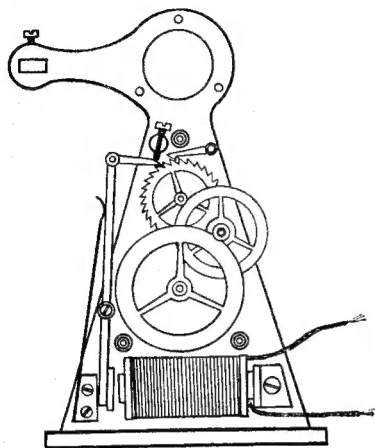

Fig. 24. Layout of impulse dial mechanism when assembled
(1) Attach electro-magnet anchorage lug with one 6-B.A. countersunk-headed screw, not too tightly. Slide coil into position and secure to base by 4-B.A. hex. nut. Do not lock too tightly.
(2) Move coil up, or down, as the case may be, until it is exactly parallel with the base line, after which, drill the  $\frac{1}{16}$ -in. steady pin hole, using that already formed on lug, as a template. Remove coil.
(3) File, slightly taper an oversize brass pin and tightly insert in hole extending through both lug and about two-thirds of face, cut off the pin as close as possible, and finally file down to outer surface. Finish to medium grain.
(4) Tightly insert the two rocker arm stop-pins as shown.
(5) Reassemble electro-magnet to base as above (sub-para. 1), but lock all screws tightly.
(6) Attach rocker arm return spring with two 10-B.A. shallow-headed screws. For sake of clearness this is not shown on Fig. 14. See Fig. 24.
(7) Fit staff to rocker arm, slightly "burring" over the spigot face to secure.
(8) Attach propulsion pawl in fork of rocker arm with a highly polished  $\frac{1}{32}$  in. diameter axis pin, slightly taper. Note the pawl must be absolutely free to fall by its own weight.
(9) Assemble the backstop, or retention pawl, by one 12-B.A. shouldered screw. This pawl must also be absolutely free.
(10) Attach the iron armature to lower end of rocker arm, by two 12-B.A. shallow-headed screws. These must not extend completely through.
The remainder of assembly will be clear on examining Fig. 24. Place all three gears and rocker arm into position, with their pivots correctly located, making sure that both pawls are approximately engaged with teeth of ratchet wheel. Place the top plate carefully into position, and guide the various pivots into their respective front plate holes. Secure with three 10-B.A. nicely blued screws, with rather large heads.